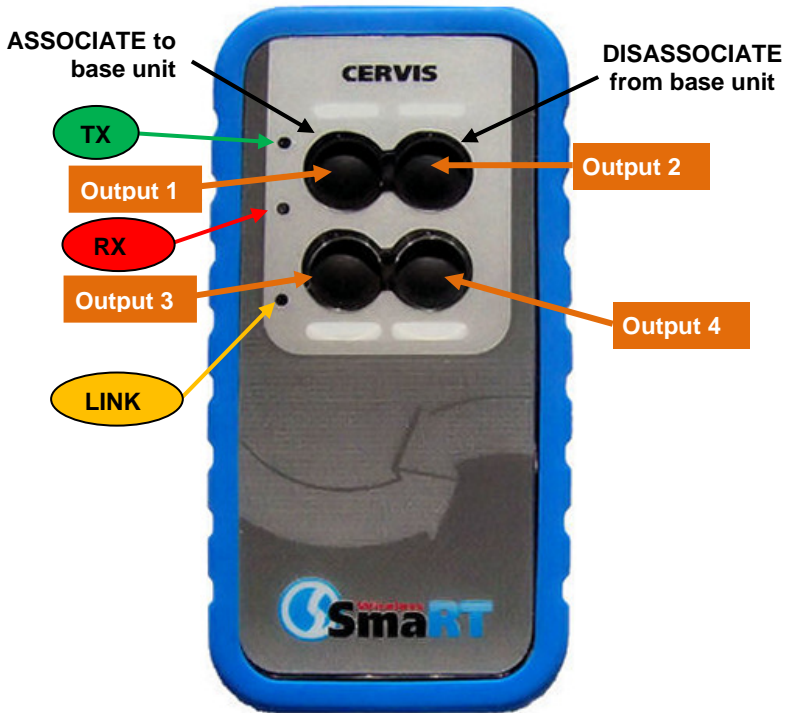

Figure 3. Handheld PTO Buttons
3. Simultaneously press and hold the Association and Disassociation buttons (see Figure 3). The TX LED lights steady green.
5. When the LINK LED flashes amber, release the two buttons. The RX LED flashes red allowing two (2) seconds for you to make the next button press.
6. Press and hold the Association button (see Figure 3 below). The RX LED extinguishes, the TX LED lights steady green, and the LINK LED lights steady amber.
3. Press and hold both the Association and Disassociation buttons (see Figure 3). TX lights steady green.
5. When LINK flashes amber, release both buttons. The RX button flashes red allowing two (2) seconds for you to make the next button press.
6. Press and hold the Disassociation button. (See Figure 3 above.) The RX extinguishes, the TX lights steady green, and the LINK LED lights steady amber.